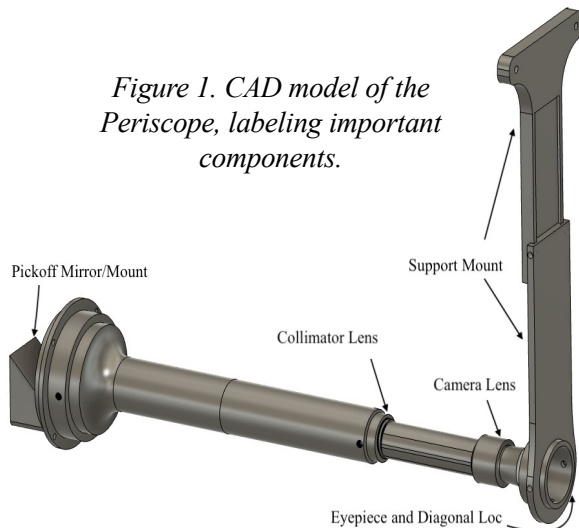

Figure 1. CAD model of the Periscope, labeling important components.
The Outreach Periscope allows guests to observe the night sky with the 1-meter. The housings for the mirror and lenses and the extended tubes were designed and 3D-printed (Fig. 1) in the Engineering Physics Propulsion Lab. The Periscope consists of a 50.8 mm x 50.8 mm flat fold mirror and two identical, 30 mm diameter achromatic doublet lenses. These relay the focal plane to an eyepiece at an easily accessible location outside the main bulk of the telescope (Fig. 2). The first run with the Periscope was on September 27, 2023, was a success.
- The support for the system, shown in Fig. 1, is bolted to the side of the mirror cell.